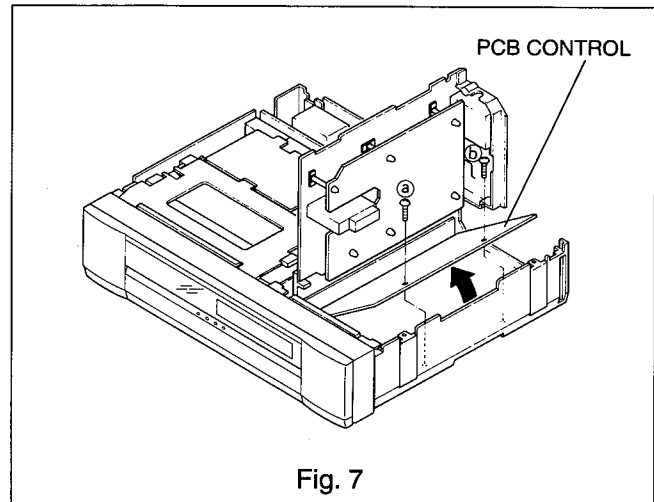

Fig. 7
- b. Remove the two screws (① , ②) as shown in Fig. 7.